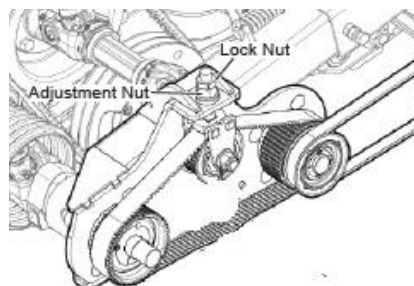

Figure 32
3. Install the right-hand GT drive cog-belt. Figure 32 Use the adjustment bolt to tighten the belt to